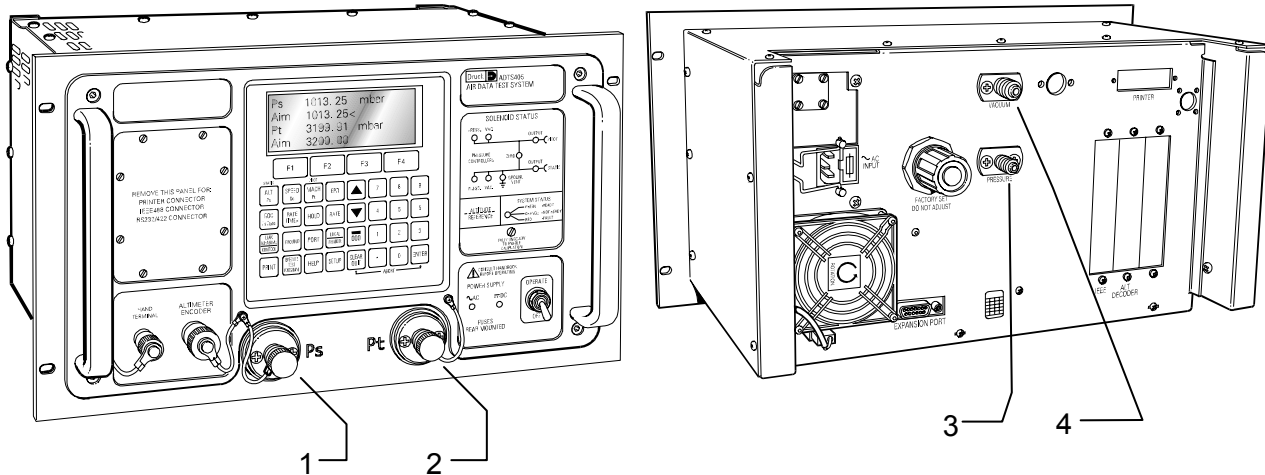

Figure 17 DPS501 Pneumatic Pressure Connections
- Connect the pressure and vacuum supplies to the rear panel PRESSURE input (Fig. 17, #3) and VACUUM input (Fig. 17, #4) connectors. The pressure supply should be clean, dry air (refer to “Pressure Media” specification, page 23).
- Connect the Unit Under Test (UUT) to either the front or rear (Option) Ps output (Fig. 17, #1) and Pt output (Fig. 17, #2) connectors.
3. For single channel testing of Altimeters or similar, requiring only Ps, connect the UUT to Ps output (Fig. 17, #1) and fit the blanking cap on Pt output (Fig. 17, #2).
4. For single channel testing of Airspeed Indicators or similar, requiring only Pt, connect the UUT to Pt output (Fig. 17, #2). The Ps output (Fig. 17, #1) must be left open to atmosphere (no blanking cap) to provide a reference pressure.